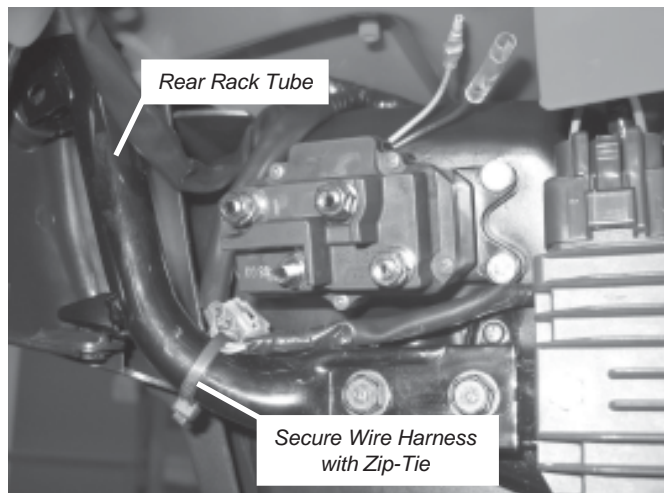

Figure 14 Contactor Location (TRX350) - Right Side of Tool Box
- a. The contactor location is located in the right rear inner fender, on the right side of the rear tool box, figures 14, 15 & 16.
- d. Relocate the wire harness that was removed along the rear rack tube, figure 14. Use a zip-tie to secure the wire harness.